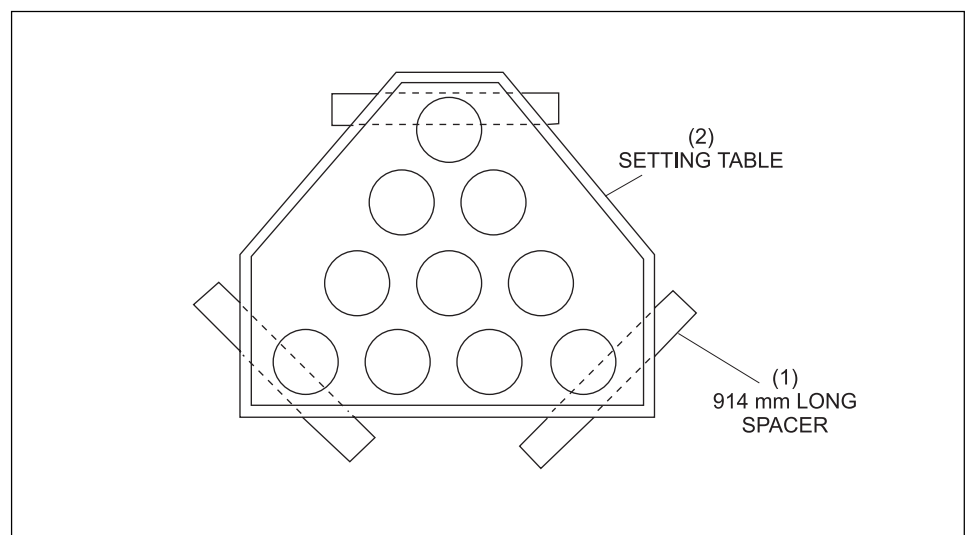

Figure 8-2. Placing Spacers.
1. Place three 914 mm (3') long 1 x 4 spacers on the pin deck positioned so the deck will be supported front and back. Refer to *Figure 8-2*.